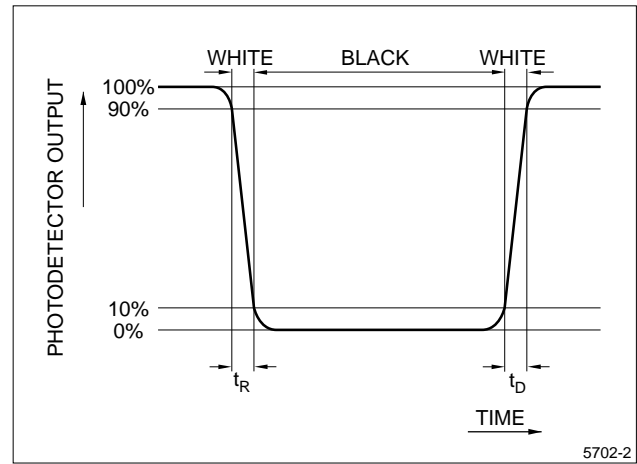

Figure 7. Definition of Response Time
- Response time is obtained by measuring the transition time of photodetector output, when input signals are applied to make the area 'black' to and from 'white' (see Figure 7).